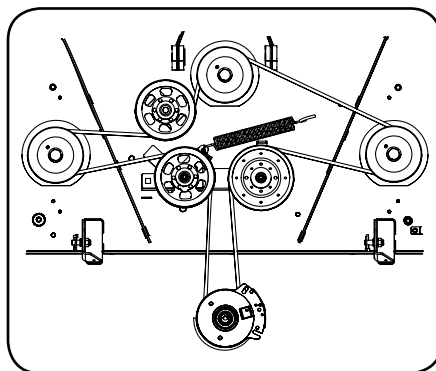

Figure 4-20
5. Install the new belt around the spindle pulleys as shown and reinstall the belt covers. See Figure 4-20.
7. Route the belt as shown in Figure 4-20 and then reinstall the deck. Refer to "Deck Installation" on page 23.